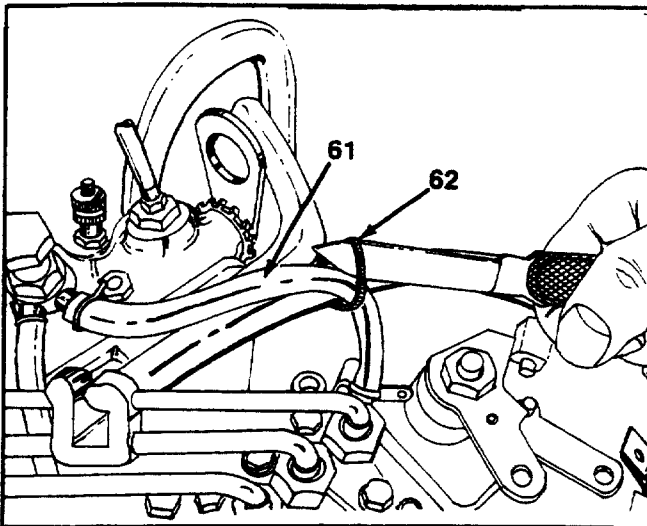

FIGURE 31.
34. Cut the cable tie holding the fuel return line to the radiator hose. See figure 31.